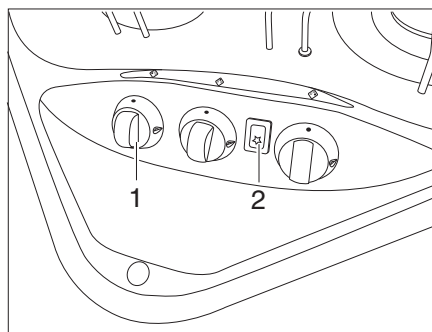
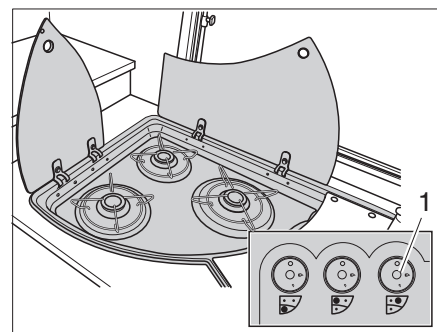

Fig. 126 Operating controls for gas cooker
Fig. 127 Alternative: Operating controls for gas cooker
- Turn the control knob (Fig. 126,1 or Fig. 127,1) on the burner you wish to use to the ignition position (large flame).
- If an ignition button (Fig. 126,2) is present: